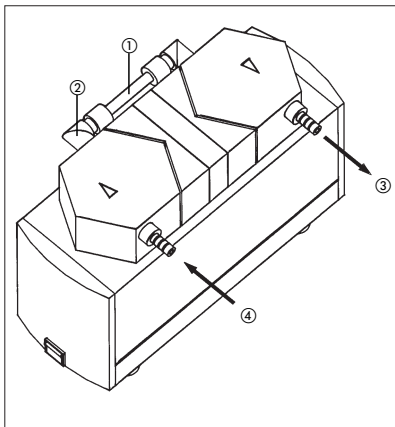

Fig. 15: Mounting the Gas Ballast
- ① Shut down the system (see section 5) (pull out the pump power plug and the Electrical Supply Unit power plug).
- ② Disconnect the tubes from the inlet and the outlet of the pump.
- ③ Remove the pump from the Baseplate.
- ④ Open the connection of the pump heads (see figure 15).
- ⑤ Screw out the connecting piece of the vacuum side head (see figure 15).
- ⑥ Screw the Gas Ballast into the pump head (the connecting piece of the gas ballast is sealed with Teflon-tape).
- ⑦ Remount the connection between the both pump heads.